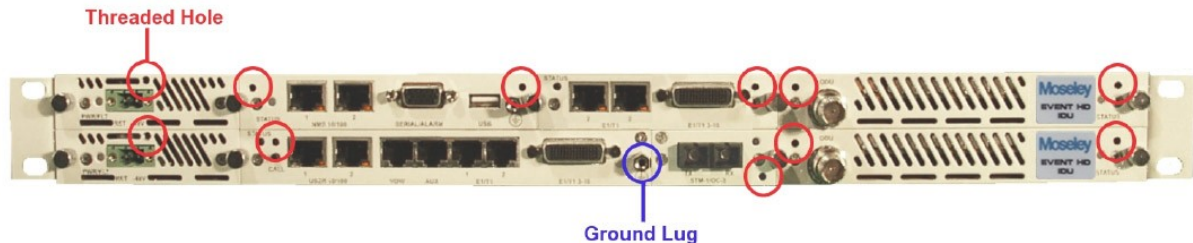

Figure 3-24. Threaded Hole Locations
12. Thread thumbscrew(s) into hole(s) shown in Figure 3-24. Remove the module by grasping the thumbscrew(s) and pulling module straight out of the SDIDU™. Both thumbscrews should be used for all modules except the Power Supply and the Mini IO Modules.
- b. When removing the Standard IO Module, the ground lug indicated in Figure 3-24 is used as the second threaded hole. If the SDIDU™ is to remain
3. Install thumbscrews on either side of the module as shown in Figure 3-24.